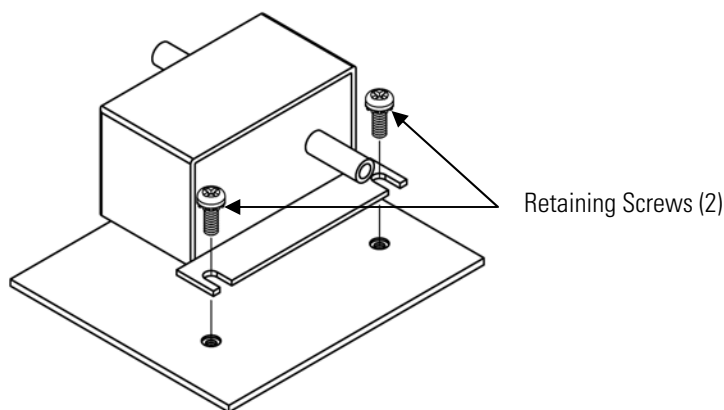

Figure 7–12. Replacing the Flow Transducer
2. Disconnect flow transducer cable from the FLOW connector on the measurement interface board (Figure 7–2).
4. Remove the two retaining screws holding the flow transducer to the floor plate and remove the flow transducer (Figure 7–12).